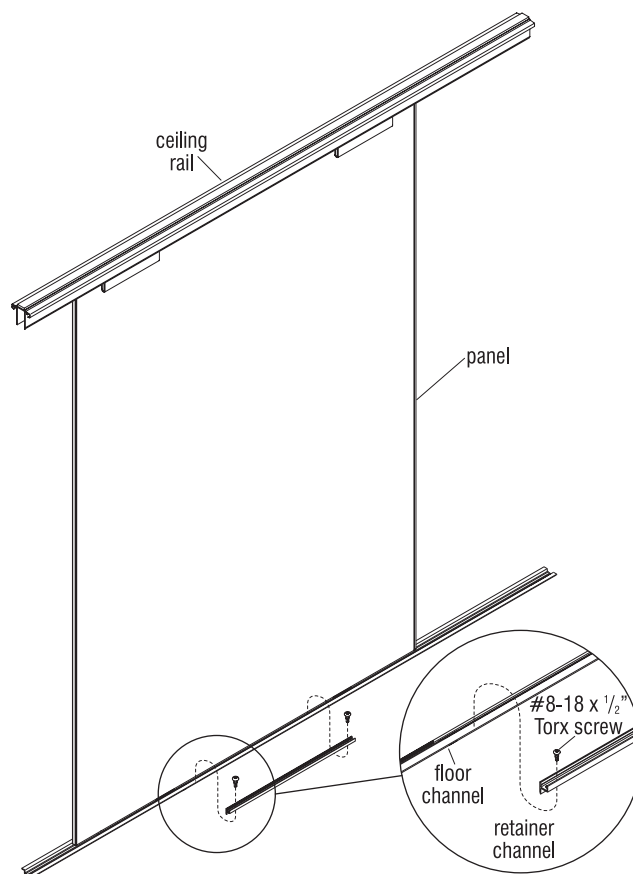

Figure 5
6. With setting blocks in place to achieve a level/plumb glass panel, and with help from a second person, use rubber suction cups and set the glass panel upright next to the ceiling rail at the location it will install to. Carefully tip the bottom of the frame out and the top of the panel frame toward the ceiling rail, then lift and nest the top frame clamps of the panel into the ceiling rail. Then, lifting the top into the rail, rotate the bottom of the glass panel carefully onto the setting blocks in the floor channel, and hold the panel upright securely (Figure 5).